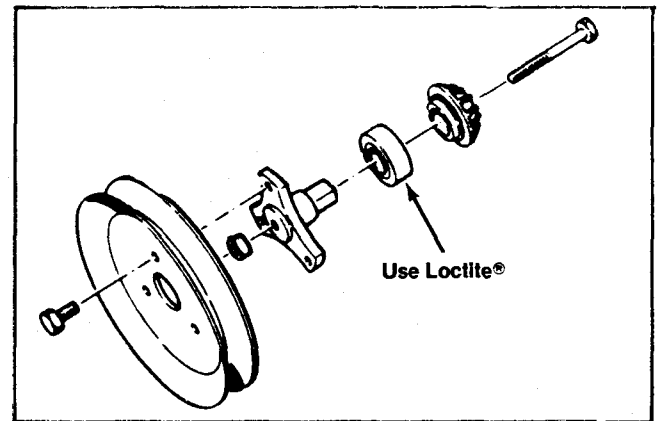

Figure 85
19. Assemble the input pinion, ball bearing, hub and pulley as shown in Figure 85.